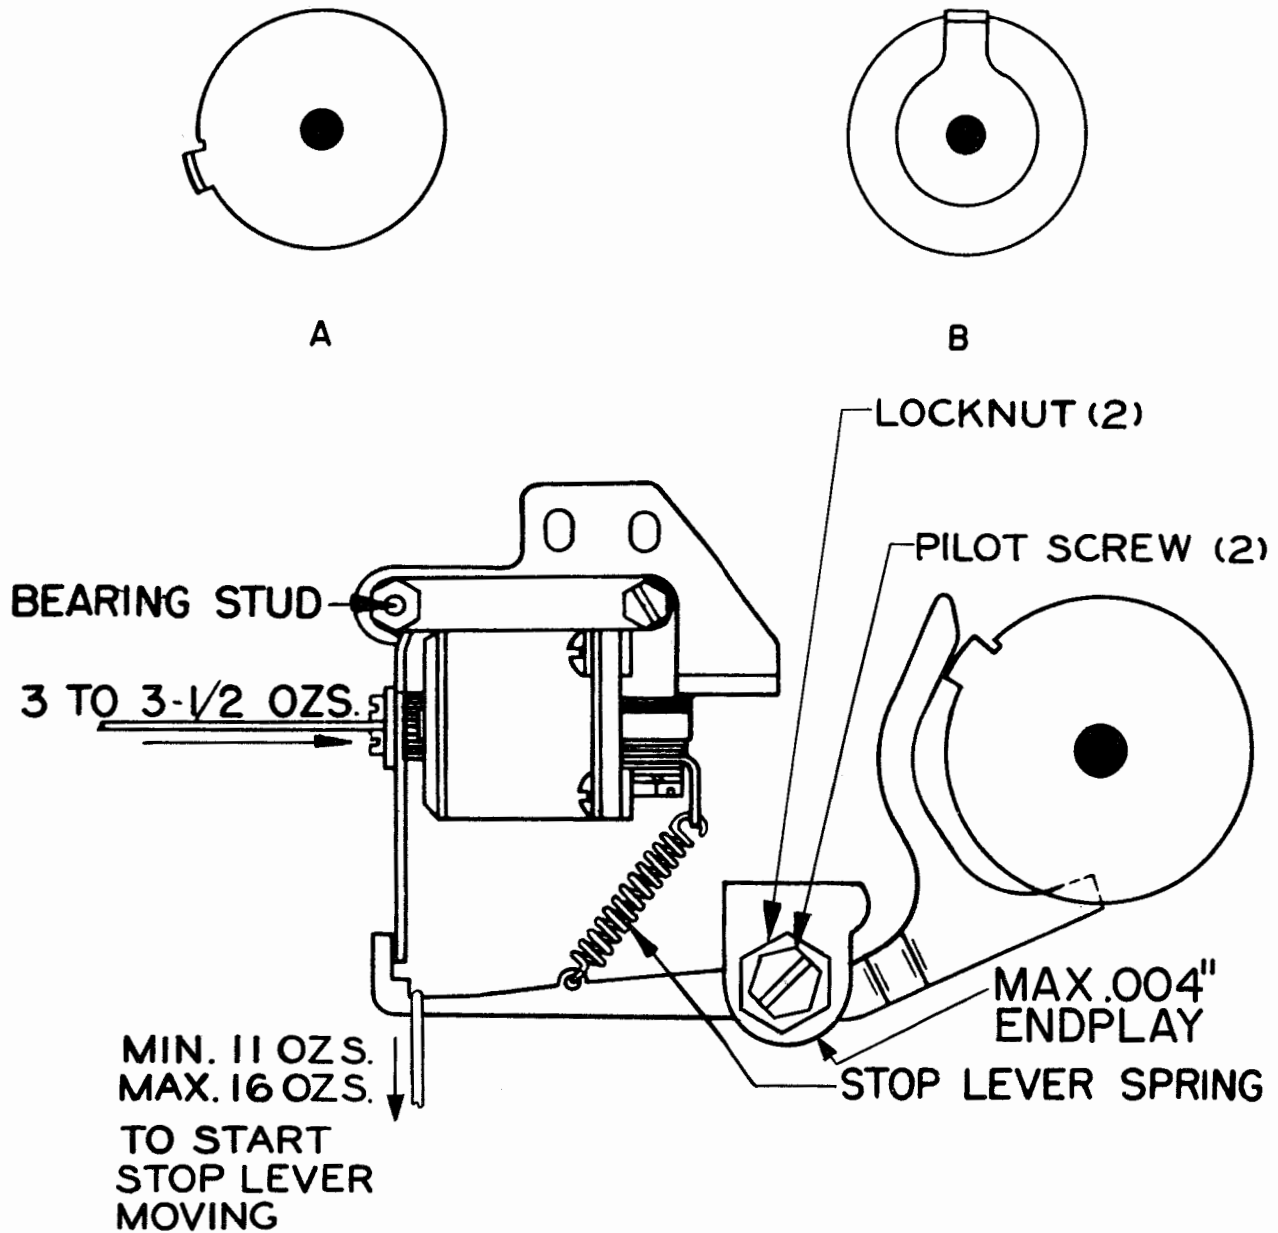

Figure 3
(b) The right edge of the latch step of the stoplever shall be parallel to the left edge of the armature extension in its latched position. (See Figure 3.)
2.08 Armature Lever Spring: With the armature extension in its latched position (armature not attracted) and the stoplever held away from the end of the armature extension, it shall require a pressure of minimum 3 ounces, maximum 3-1/2 ounces to start the armature moving when the push end of an 8-ounce scale is applied horizontally to the armature between the screws. (See Figure 3.)
2.09 Stoplever Spring: With the armature latched in its unoperated position, hook a 32-ounce scale over the left end of the stoplever and pull horizontally at right angle to the stoplever. It shall require minimum 11 ounces, maximum 16 ounces to start the stoplever moving. When measuring this tension the stoplever should not touch the stop lug. (See Figure 3.)